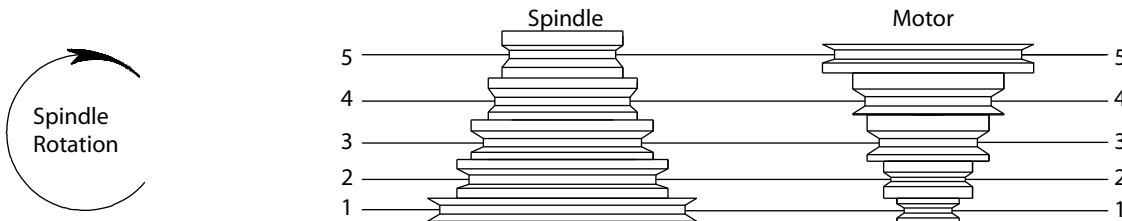

Figure 5 – Spindle Speed Adjustment
Refer to Figures 5 and 6.
1. To change spindle speed, loosen lock knob (Ref. No. 21) on the right side of the head and push the motor toward front of drill press. This will loosen the belt and permit relocating the belt to the desired pulley groove for the required spindle speed (See Figure 5 and chart).